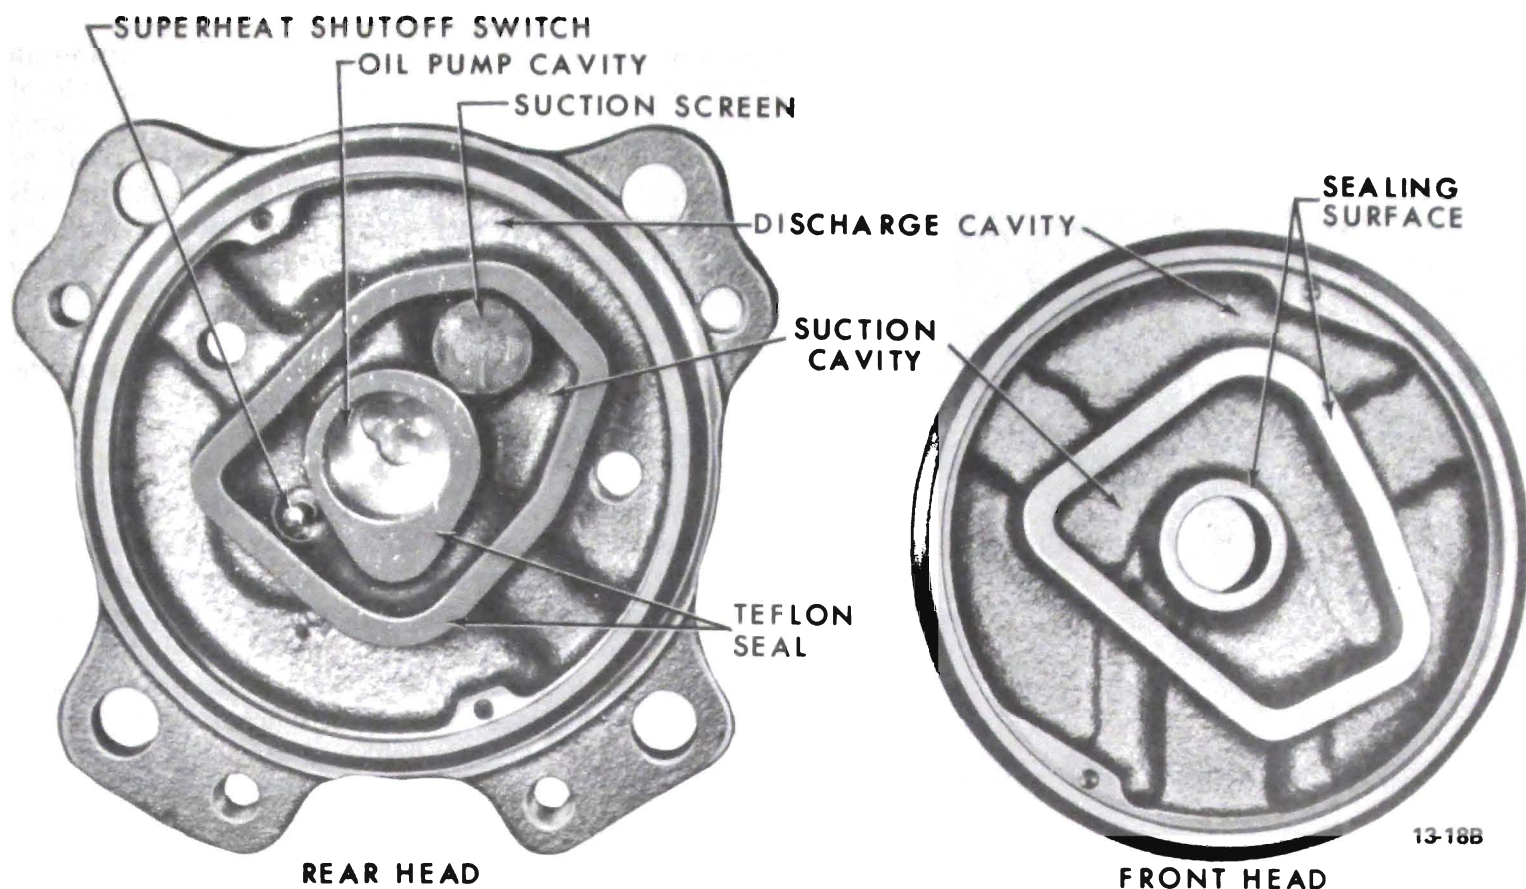

Figure 13-3 Compressor Front and Rear Heads
2. Front and Rear Heads - The front and rear heads (Figure 13-3) serve to channel the refrigerant into and out of the cylinders. The front head is divided into two separate passages and the rear head is divided into three separate passages. The outer passage on both the front and rear heads channels high pressure gas from the discharge valve reeds. The middle passage on both front and rear heads channels low pressure gas to the suction valve plate reeds. The middle passage of the rear head also contains the port opening to the superheat switch cavity. This opening in the rear head permits the superheat switch to be affected by suction gas pressure and suction gas temperature for the operating protection of the compressor. The inner passage on the rear head houses the oil pump inner and outer rotors. A Teflon sealing material is bonded to the sealing surfaces separating the passages in the rear head. "O" rings are used to affect a seal between the mating surfaces of the heads and the shell. The front head suction and discharge passages are connected to the suction and discharge passages of the rear head by a discharge tube and suction passage in the body of the cylinder assembly. A screen located in